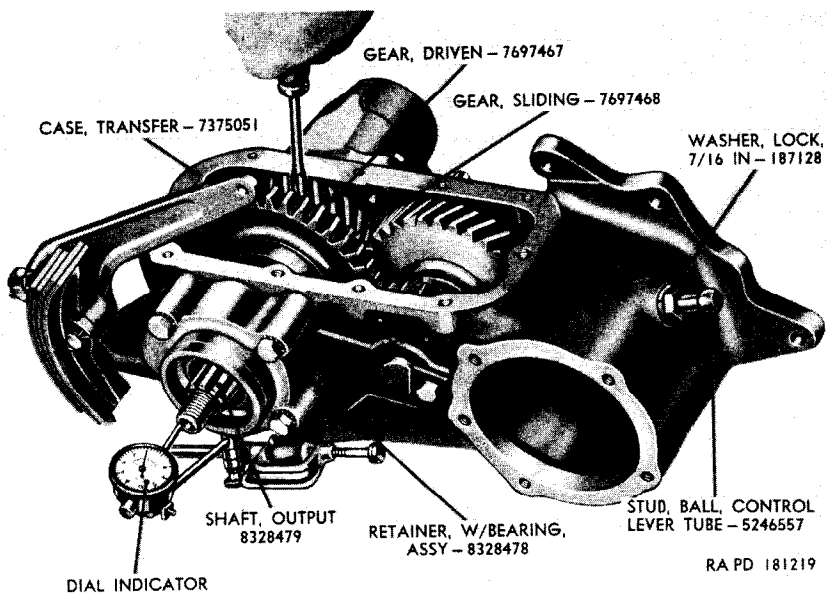

Figure 83. Checking transfer rear axle output shaft end play.
a. Disassembly. No disassembly of the transfer case (U) is required except the removal of the control lever tube ball stud (fig. 83). Do not remove the stud unless inspection (*b* below) reveals it unserviceable. If the stud must be removed, unscrew it from transfer case and follow by removing lockwasher.
b. Inspection and Repair. Inspect the transfer case (U) for cracks and sand holes. Replace transfer case if cracks and sand holes are found. Examine the bearing cup openings and machined surface for burs, nicks, abrasions, or deep scratches. Remove all burs, raised metal and nicks with a fine mill file. Replace transfer case if damage on machined surface will interfere with a good seal. Check drain and filler pipe plugs (V and VV) for damaged or crossed threads. Replace any plug with damaged threads. Inspect and control lever tube ball stud for out-of-round condition. Replace stud, if necessary.
act as a lever and move rear axle output shaft to check end play as illustrated in figure 83. The rear axle output shaft must have from 0.004 to 0.008 inch end play. Adjustment is made by adding or removing bearing retainer shims, as necessary. These shims are supplied in 0.003, 0.010, and 0.031 inch thickness. After establishing correct end play, remove the rear axle output shaft bearing retainer, coat shims with plastic type gasket cement and install retainer.